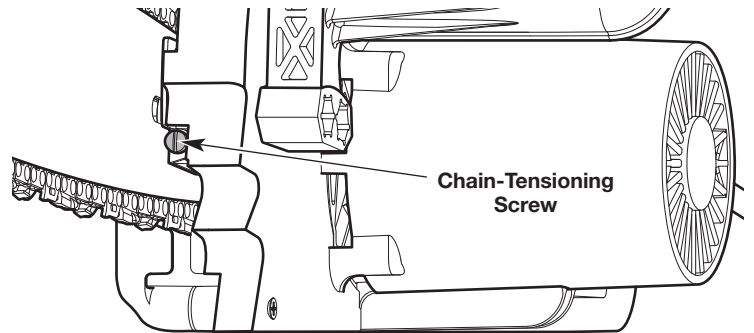
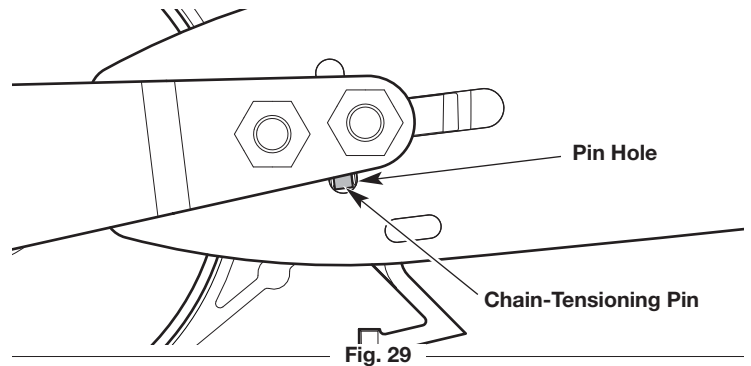

Fig. 24
Fig. 29
2. Hold the guide bar tip up and use a flat-head screwdriver to turn the chain-tensioning screw (Fig. 24).
1. Use a flat-head screwdriver to turn the chain-tensioning screw counterclockwise (Fig. 24) until the chain-tensioning pin is at the far left of the mounting surface (Fig. 29).
3. Make sure the chain-tensioning pin is in the pin hole on the guide bar (Fig. 29). If necessary, turn the chain-tensioning screw to move the chain-tensioning pin.